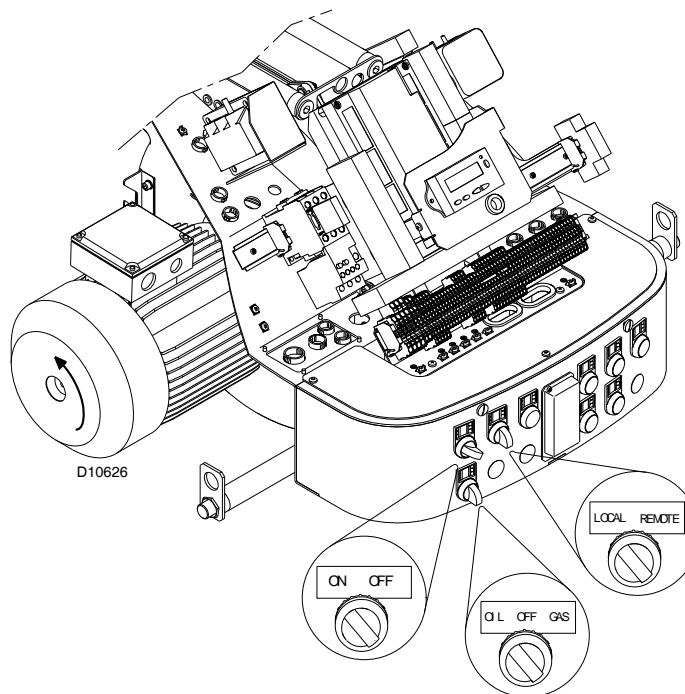

Fig. 40
Turn the switch to position “ON” (Fig. 40) and turn the switch of to position “LOCAL” and turn the switch to position “OIL” for oil operation and “GAS” for gas operation.
When the burner starts, check the direction of the motor rotation, as indicated in Fig. 40. As soon as the burner starts up, look at the cooling fan of the fan motor and check it is rotating anticlockwise.
- place the switch of Fig. 40 in position “OFF” and wait for the control box to carry out the switch-off phase;